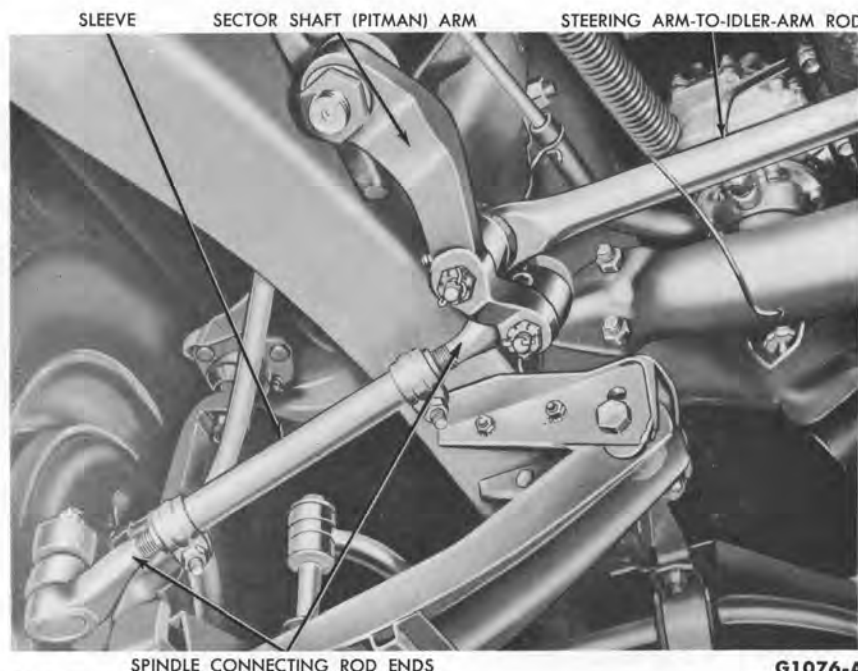

FIG. 1—Spindle Connecting Rod
The manual steering linkage (Figs. 1 and 2) consists of the sector shaft (Pitman arm), the steering arm to idler arm rod, the steering idler arm, and the spindle connecting rods (tie rods). **Do not attempt to straighten bent linkage; use new parts.**
1. Remove the cotter pin and nut from the worn rod end ball stud (Figs. 1 and 2).
A spindle sleeve should be replaced if it becomes worn or damaged (Figs. 1 and 2). **Do not attempt to straighten the sleeve if bent or chase the threaded portion if damaged.**